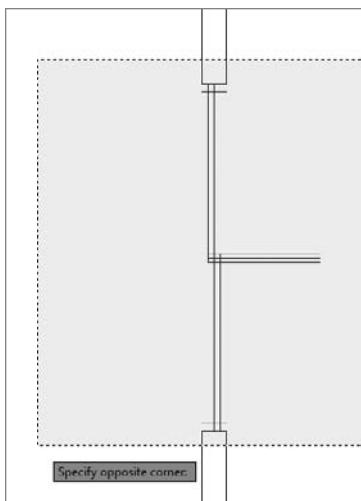

FIGURE 4.70 The crossing window for selecting cutting edges
- b. Move the cursor to a point below and to the left of the opening, forming a semitransparent green-colored window with dashed boundary lines (see Figure 4.70).